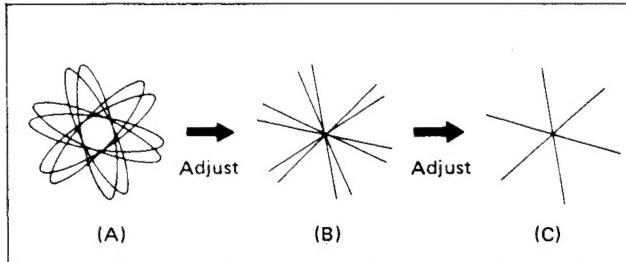

Fig. 5-18
- Connect jumper clip between pin ④ of IC301 and pin ⑤ of IC301.
- Apply bias +12V to pin ⑥ of IC301.
- Adjust T302 to minimize resurge waveforms on the oscilloscope. [See : Fig. 5-18-(A)]
- Remove the short jumper between pin ④ and pin ⑤ of IC301.